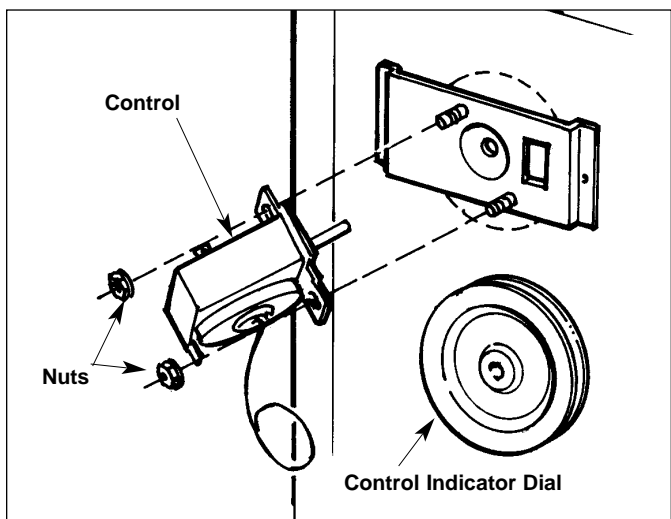

Figure 2-56. Control Assy.
3. The refrigerator control is mounted to the evaporator cover (Figure 2-56). Remove the control knob and two nuts. The control will pull off the mounting bracket.
3. The controls are mounted to the evaporator cover (Figure 2-56). Remove the control knobs and nuts. The controls will pull off the mounting bracket.